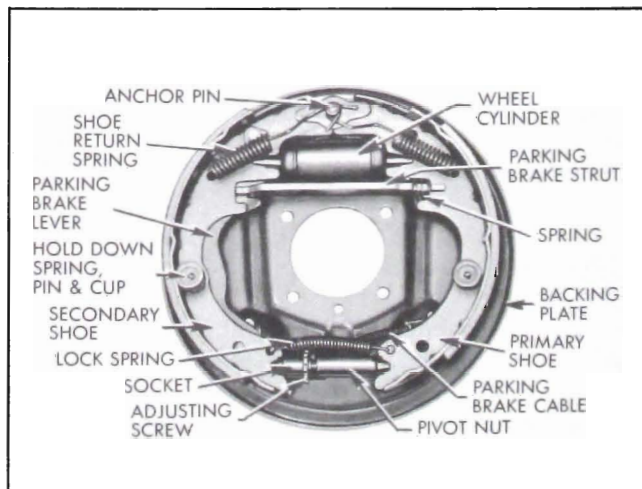

Figure 9-10—Rear Wheel Brake Assembly—Right
2. Unhook shoe return springs using large pliers. Remove shoe hold down springs, spread shoes to clear wheel cylinder connecting links, remove parking brake strut (rear only), and remove shoes from backing plate. Disconnect cable from parking brake lever (rear only). See Figure 9-10.
3. Separate the brake shoes by removing adjusting screw and lock spring. Remove parking brake lever from secondary brake shoe (rear only). See Figure 9-10.
1. On rear brakes only, lubricate fulcrum end of parking brake lever and the bolt with Bendix or Delco Brake Lubricant, or Lubriplate, then attach lever to secondary shoe with bolt, spring washer, nut, and Pal nut. Make sure that lever is free moving. See Figure 9-10.
to parking brake lever and install strut between lever and primary shoe as installation is made. See Figure 9-10.